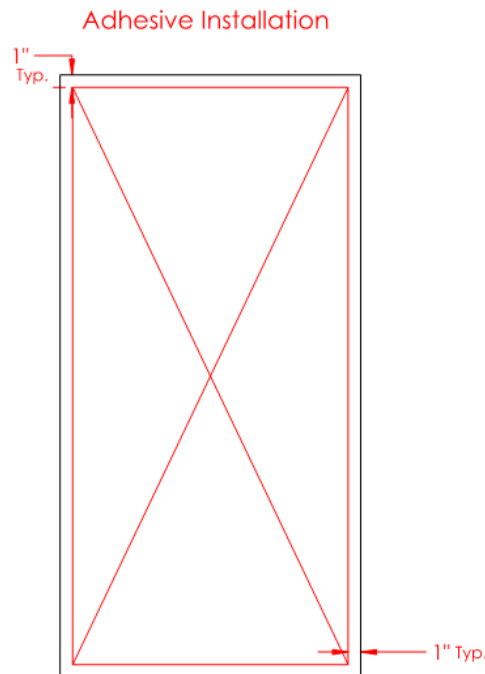

Figure 1: Construction Adhesive Application
- 7) To maximize bonding process, use pressure to apply a ¼" bead of adhesive to back of acoustical panel around the full perimeter of the panel, applied to within 1" of panel edges. Use the diagram shown in Figure 1 below as a guide.
- 8) Using pressure apply a ¼" bead of adhesive from opposite corners through the center of the panel, forming an "X". Use the diagram shown in Figure 1 below as a guide.